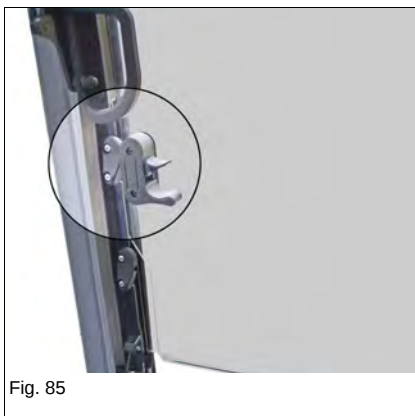

Fig. 85
- The lower front window must be fully open when the entire front window is opened or closed (*Fig. 85*).